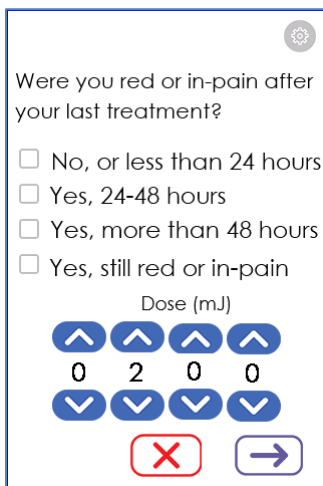

Figure 23 Guided Mode Prompts
3. Respond to the “red or in pain” skin-response prompt (*Figure 23*).